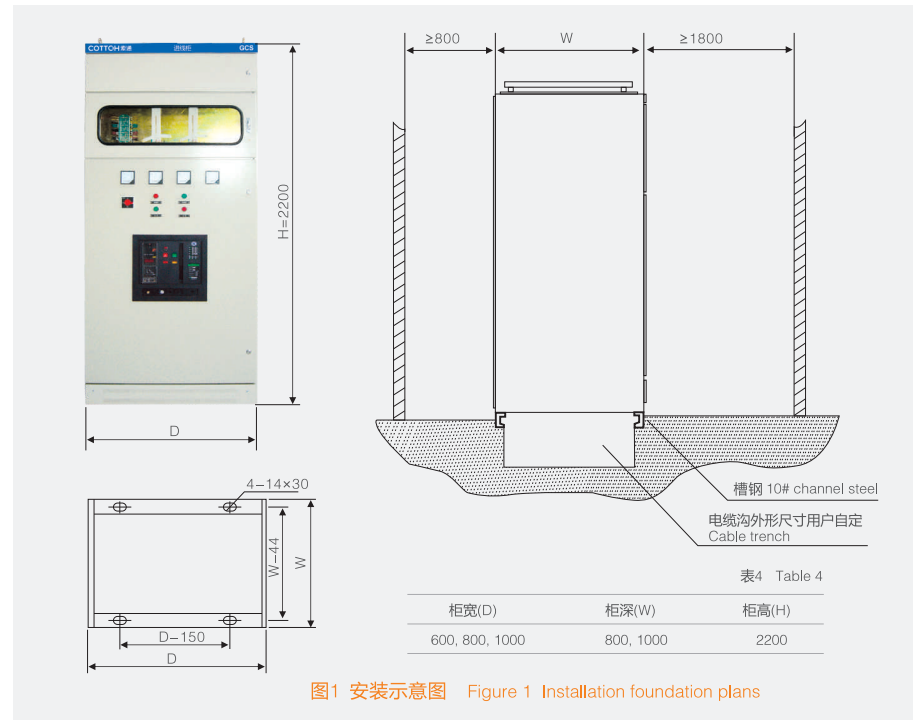

图1 安装示意图 Figure 1 Installation foundation plans
- The installation shall be executed according to the illustration Figure1. Channel steel and bolts for foundation shall be provided by user. If the surface of main busbar is not flat because of transportation or storage or other reason, please make it flat, then perform connecting busbar.